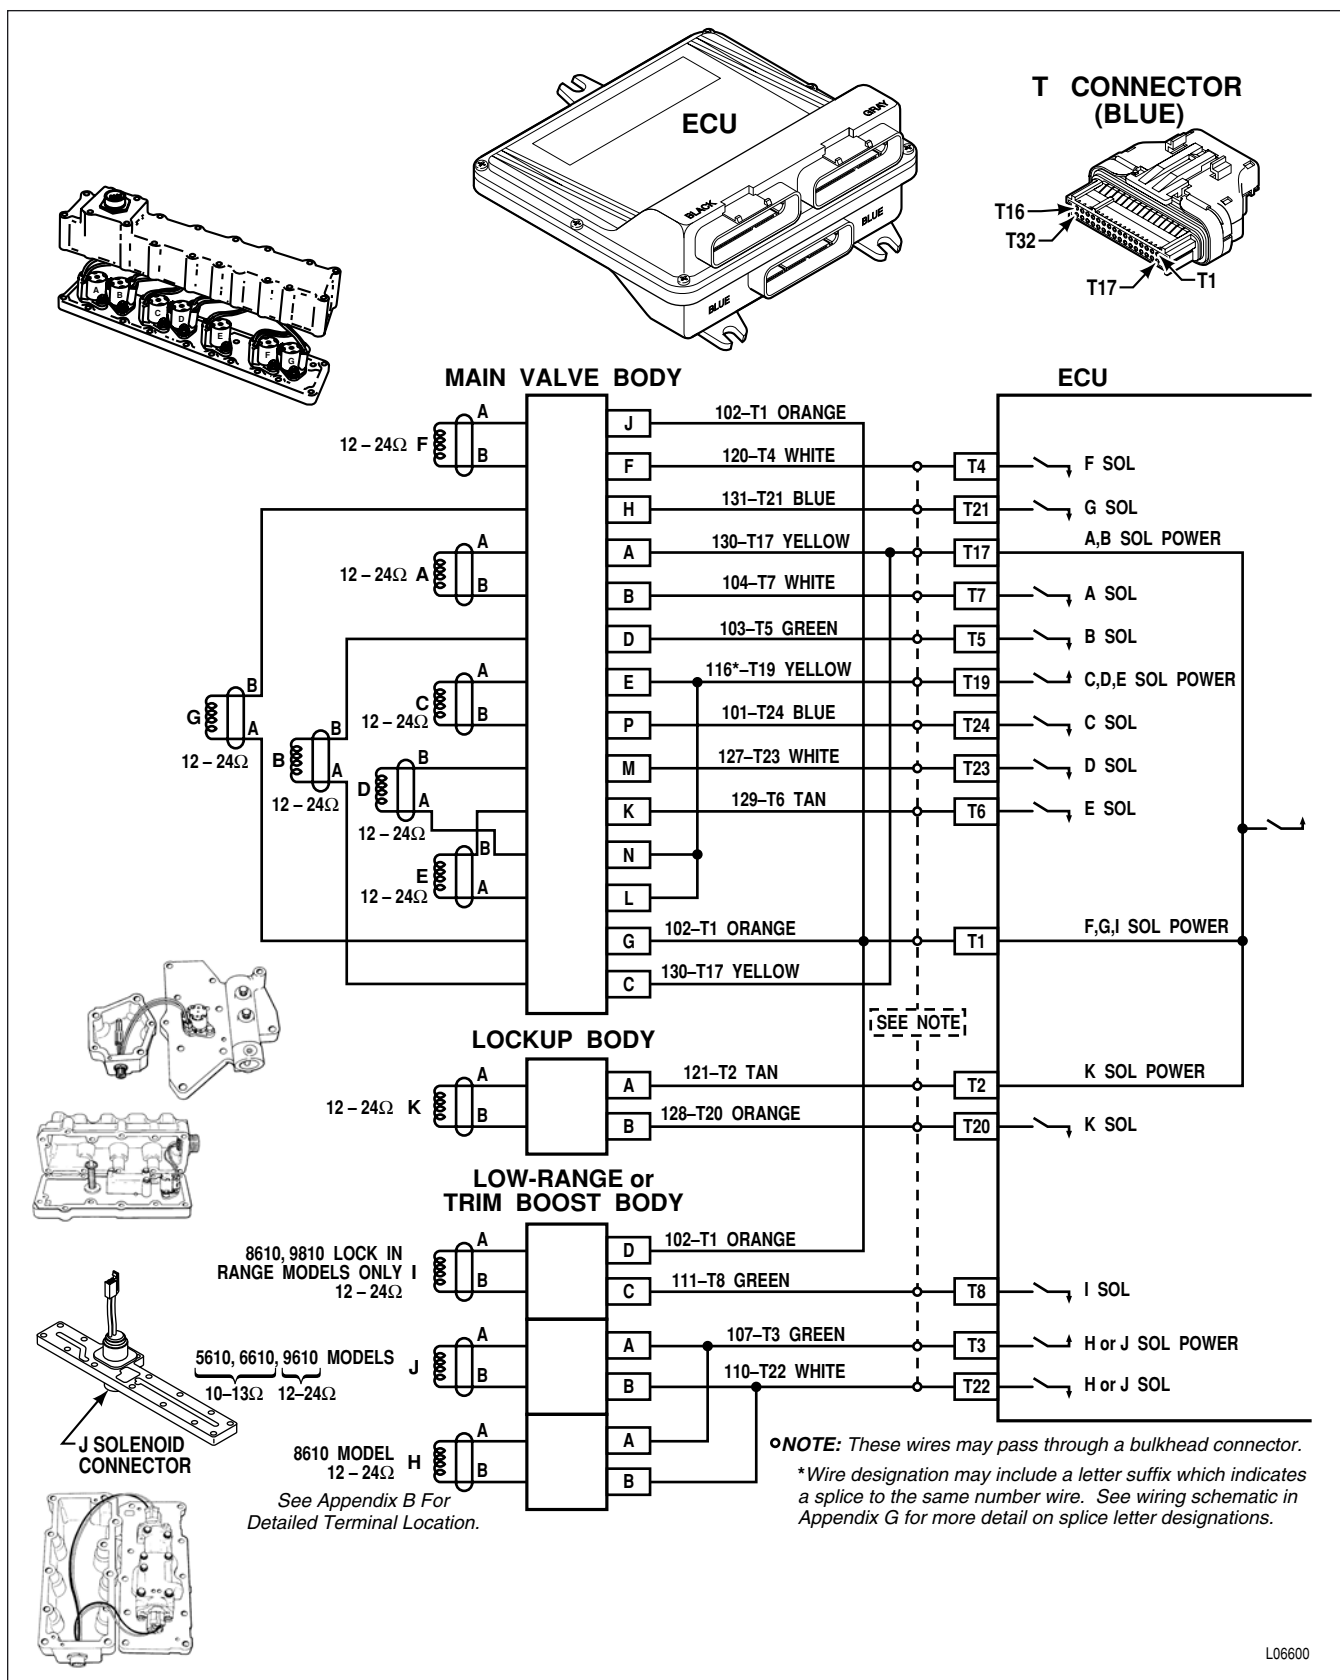

Figure 5-11. Code 45 Schematic Drawing
**CODE 45 XX—GENERAL SOLENOID FAILURE** (*Figure 5-11*)
6. If code 45 21 occurs repeatedly and the H/J solenoid and wiring test okay, the solenoid driver may be failed open. Follow Step (5) above.
7. If codes 45 16, 45 23, and 45 26 occur repeatedly and solenoids and wiring test okay, the solenoid driver may be failed open. Follow Step (5) above.